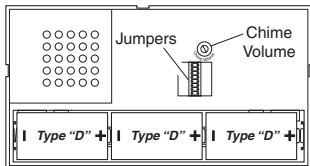

Figure 3 - Inside Chime
3. **Install 3 alkaline “D” batteries.** Make sure batteries are oriented properly (see Figure 3).
5. Adjust volume control. Adjust volume control to desired volume (see Figure 3).
- Replace batteries (see Figure 3).